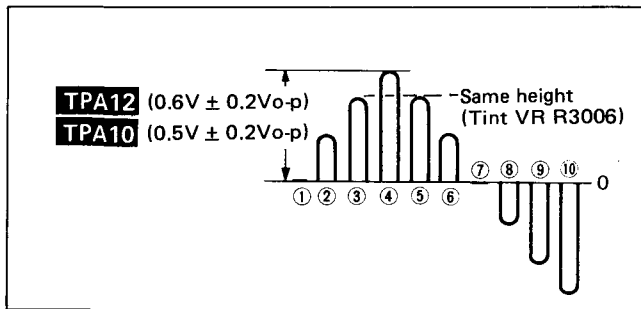

Fig. 32
- 3) Connect an oscilloscope between **TPA12** (B-Output) and chassis GND. When confirm that the waveform level is  $0.6V \pm 0.2V_{o-p}$  on the oscilloscope as shown in Fig. 32.
When confirm that the waveform level is  $0.5V \pm 0.2V_{o-p}$  on the oscilloscope as shown in Fig. 32.
- 6) Turn Tint control (R3006) and confirm that the variable range is more than  $60^\circ$  as shown in Fig. 32.